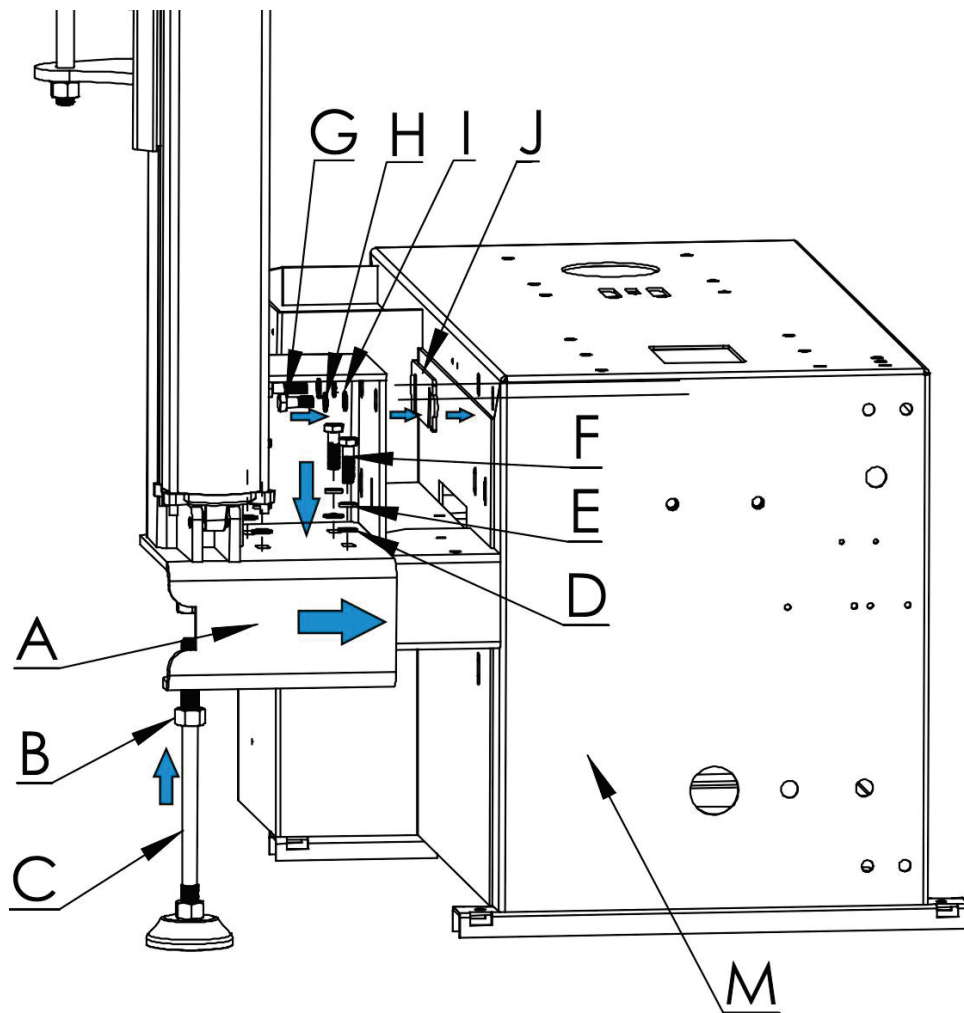

Fig.5
- As Fig.5, Put arm A onto frame M. Find and match installing holes. Install screw F(M10*35), washer E and flat washer D downward; The same way, as the direction show in Fig. 5, install screw G(M10*35), washer H and flat washer I into frame M, keep screw loose, put plate J on (Plate J is placed between arm and frame), tight six pieces screw with wrench.
- As Fig.5 Adjust support foot, keep it well touched with ground, tighten B (M16) upward.